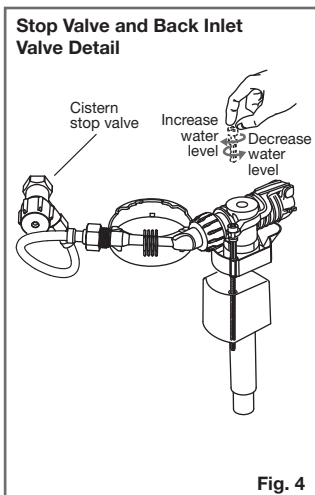

Fig. 4
- 5- Fit cistern stop valve (supplied) to the 1/2" B.S.P. nipple in the wall using approved thread seal, in the downward angled position as detailed in Fig. 4. Connect one end of flexible hose to cistern stop valve.
- 9- Adjust water level to the 4.5 litre water level mark inside the cistern by simply turning the float arm screw in a clockwise or anti-clockwise direction, as detailed in Fig. 4.